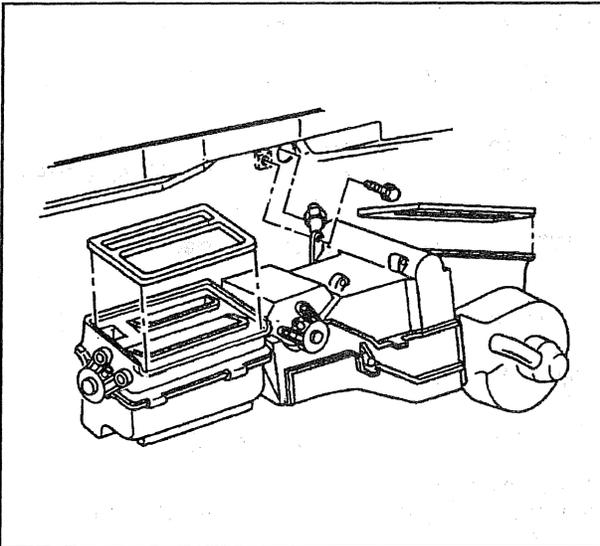

Figure 10—Heater Case (1 of 2)
↔ Remove or Disconnect (Figures 10 and 11)
↔ Install or Connect (Figures 10 and 11)
12. Screw on interior side of cowl, near the evaporator pipe (if equipped) while holding heater case to the cowl (figure 10).
Install or Connect (Figures 10 and 11)